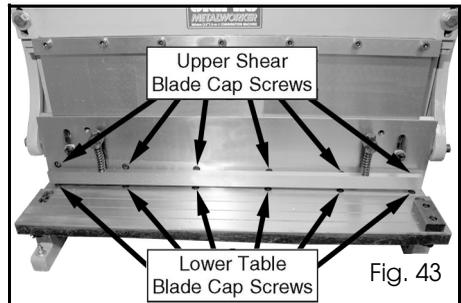

Fig. 43
2. Remove the six cap screws that secure the blade, then carefully remove it from the machine (see Figure 43).